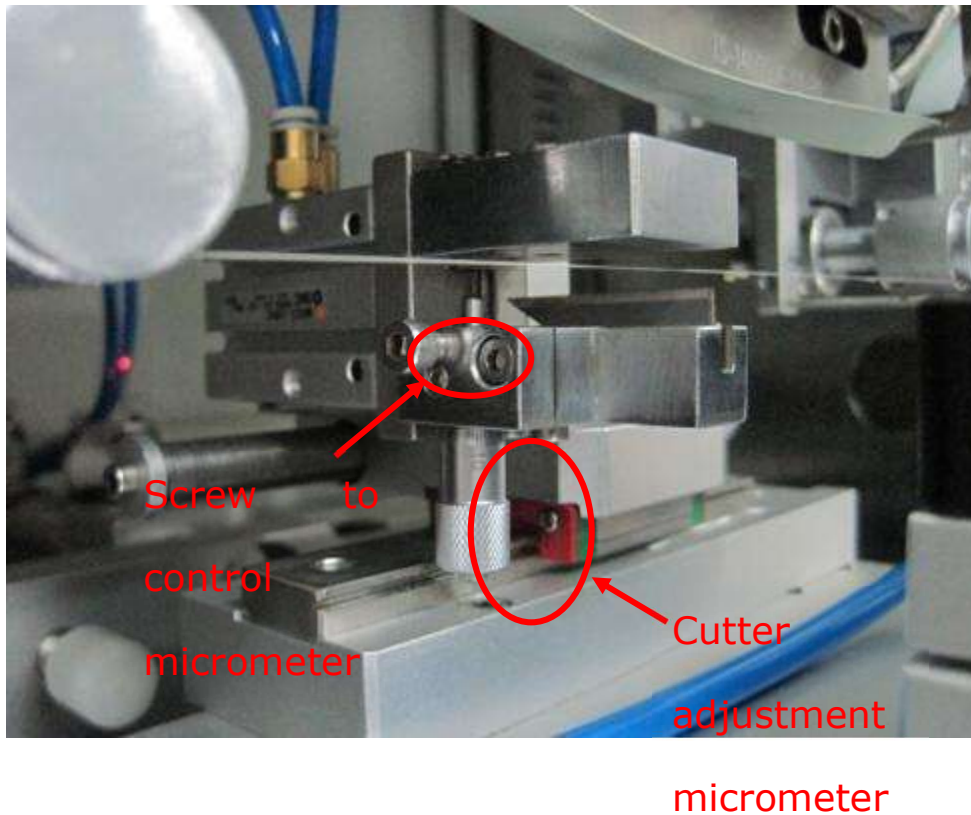

Figure 4.3
4.2.1 In order to adjust the depth of the half-cut, review the picture in figure 4.3 Loosen the “screw to control micrometer” circled in red, adjust “cutter micrometer”—turn clockwise to make the cutter move up and turn counterclockwise to move the cutter down. Make sure only to cut off the ACF adhesive but not the backing release tape. Tighten the “screw to control micrometer” after adjustment is completed.